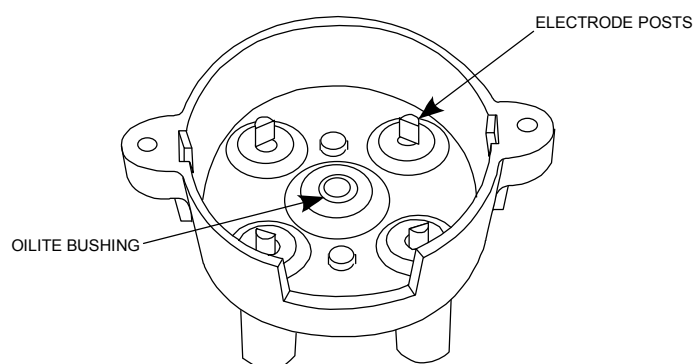

Figure 8.11
1. Visually inspect the block for carbon tracking, cracks, or other physical damage. Replace block assembly (31) as necessary.
2. Inspect the brass electrode posts for signs of physical wear. Replace block assembly (31) as necessary. During normal operation, the electrode posts will experience an electrical-metal transfer with the distributor gear electrode. This condition is normal and not cause for rejection. (See Figure 8.11).